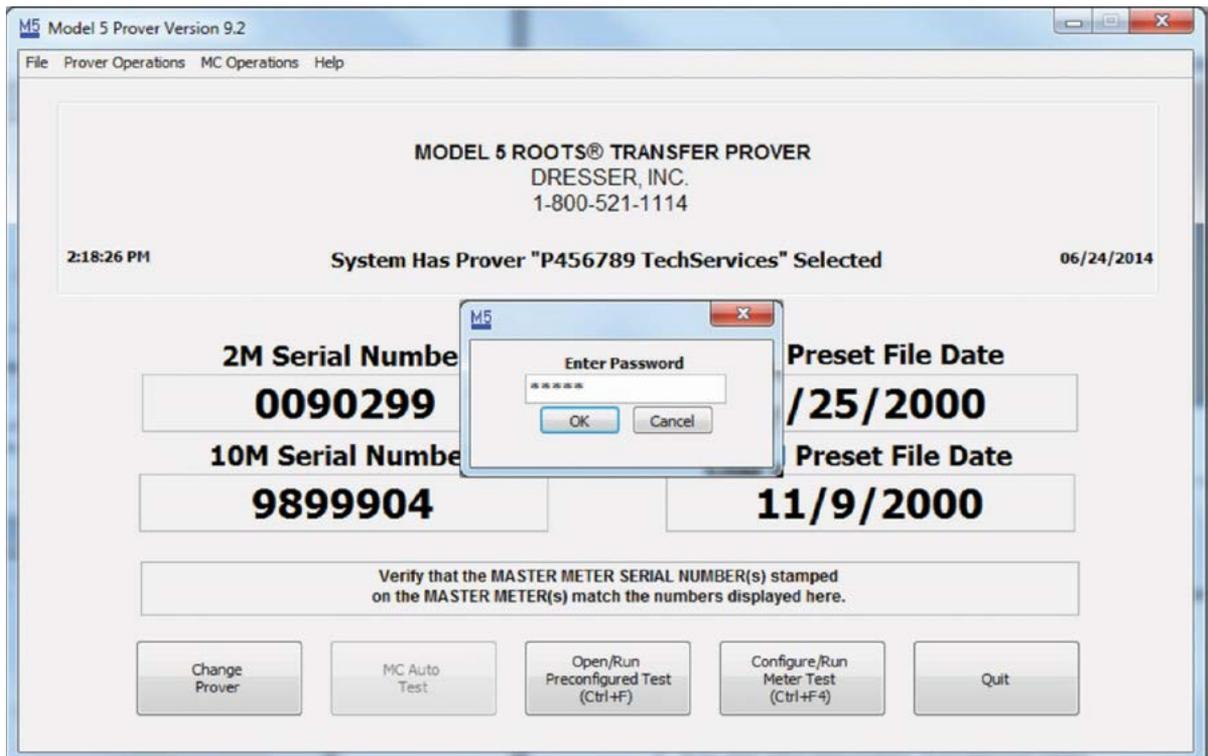

Figure 56: Prover Setup Password
- Upon selecting "Prover Setup" the system will prompt for a password as shown in **Figure 56**. The password is "ROOTS". Capitalization is required. Click "OK." Ensure that the communication cable is still installed.